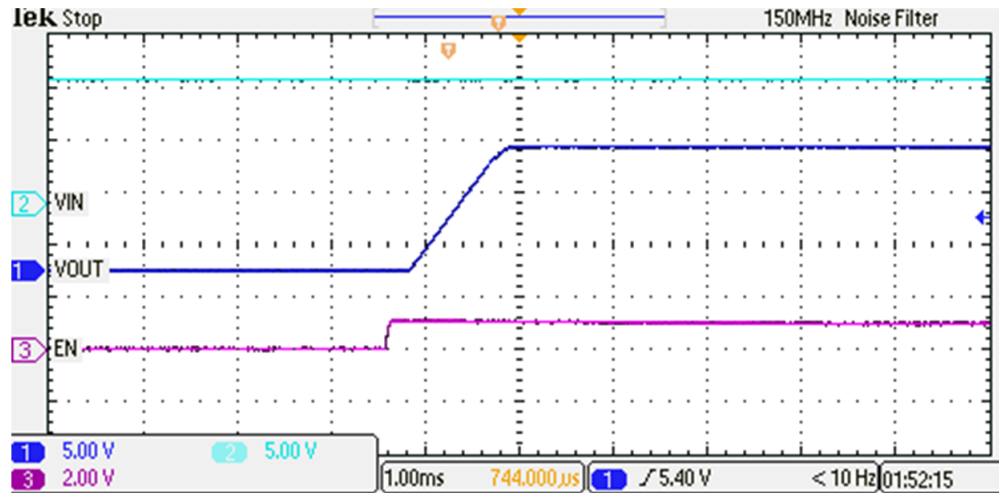

Figure 3. V_{OUT} Ramp Up Time for CH1
- Set the output load at 100 Ω on CH1 and then enable the load. Turn on the power supply, Press the EVM RST switch, S1 and release verify that VOUT1 (TP2) ramps up as Figure 3 illustrates.